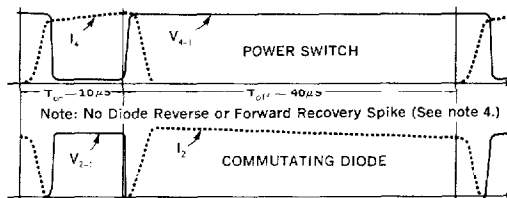

Figure 2. PIC600, PIC601, PIC602 Switching Waveforms
- No reverse recovery spike generated by commutating diode (See note 4 and Fig. 2.)
- In switching an inductive load, the current will lead the voltage on turn on and lag the voltage on turn-off (see Figure 2.). Therefore, Voltage Delay Time (t_{pv}) $\approx t_{di} + t_{ri}$ and Current Storage Time (t_{si}) $\approx t_{sv} + t_{fv}$.
- As can be seen from the switching waveforms shown in Figure 2., no reverse of forward recovery spike is generated by the commutating diode during switching! This reduces self-generated noise, since no current spike is fed through the switching regulator. It also improves efficiency and reliability, since the power switch only carries current during turn-on.